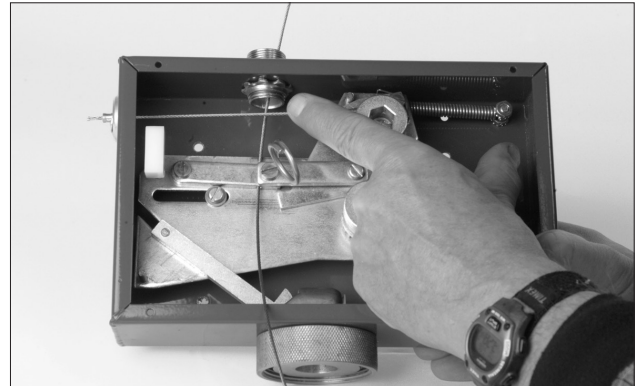

FIGURE 4-40
2. Starting at the PYRO-CHEM control head, connect the conduit connector using the supplied nut. Use only PYRO-CHEM Conduit Fittings (Part No. 55813). See Figure 4-40.